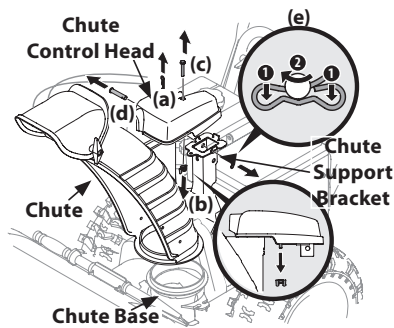

Figure 2-42
1. Remove cotter pin (a), wing nut (b) and hex screw (c) from chute control head. Remove clevis pin (d) and bow-tie cotter pin (e) from chute support bracket. See Figure 2-42.
5. Insert other end of chute control rod into coupler below handle panel. Make sure to line up flat end of rod and flat end of coupler. You may need to rotate rod around until these two surfaces line up. See Figure 2-42 inset.